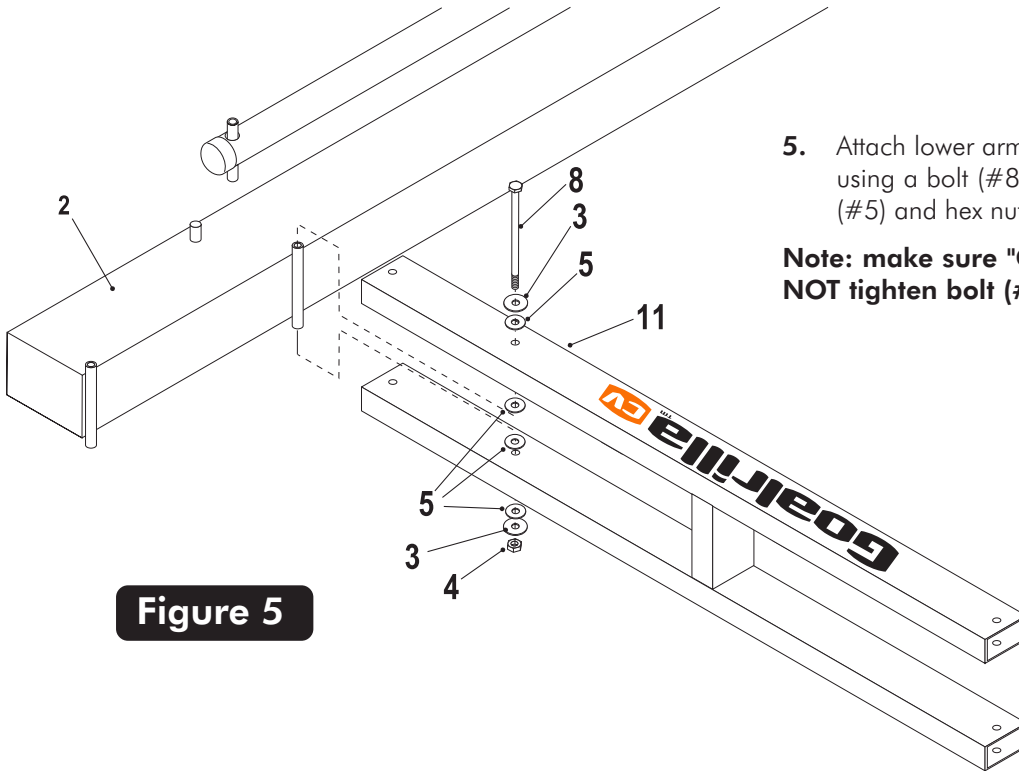

Figure 5
- Attach lower arm (#11) to Pole (#2), as shown in Figure 5, using a bolt (#8), two flatwashers (#3), four plastic washers (#5) and hex nut (#4).